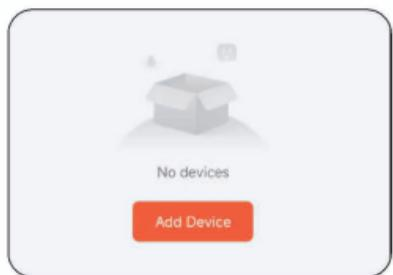
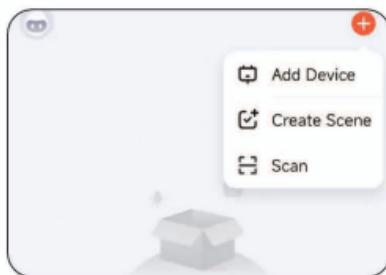

Figure 1
Figure 2
3.1 Long press the button for 3s to power on, and open the "Tuya Smart" APP at the same time. Click "Add device" on the APP(Figure 1), and click "Add" when the APP displays the discovered device (Figure 2).